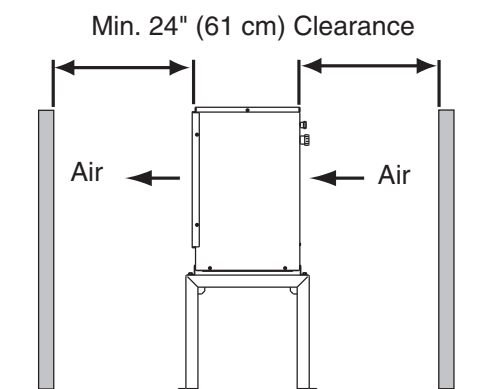

Fig. 1
- A dry and well ventilated area with 24" (61 cm) clearance in both front and rear for proper air circulation and ease of maintenance and/or service should they be required. See Fig. 1.